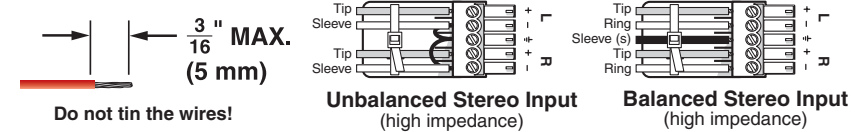
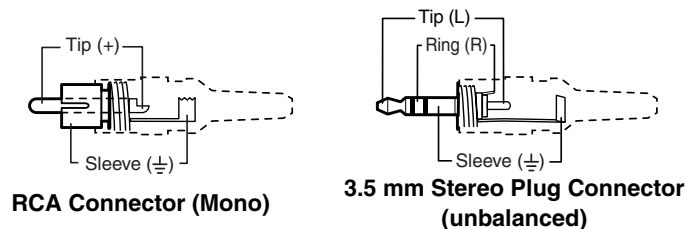
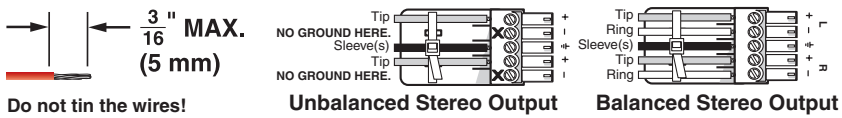

Figure 2-13 — Captive screw input connector wiring
Figure 2-14 — Typical audio connectors
Figure 2-21 — Captive screw connector wiring for audio output
- ① **S-video connector (SV models)** — Connect an S-video input to this 4-pin mini DIN connector.
- ② **Composite video connector (CV and AV models)** — Connect a composite video input to this connector (female RCA on the MTP T AV AAP, female BNC on all other models).
- ③ **Audio input captive screw connector (MTP T SV A, MTP T AV)** — Connect a balanced or unbalanced audio input to this 3.5 mm, 5-pole captive screw connector. Connectors are included with each MTP, but you must supply the audio cable. See figure 2-13 to wire a connector for the appropriate input type. Use the supplied tie-wrap to strap the audio cable to the extended tail of the connector. High impedance is generally over 800 ohms.
NOTE When making connections for the MTP from existing audio cables, see figure 2-14 to identify the tip, ring, and sleeve wires in various connectors. A mono audio connector consists of the tip and sleeve. A stereo audio connector consists of the tip, ring and sleeve. The ring, tip, and sleeve wires are also shown on the captive screw audio connector diagrams, figure 2-13 and figure 2-21.
- ⑧ **S-video connector (SV models)** — Connect an S-video device to this 4-pin mini DIN connector.
- ⑨ **Composite video connector (CV and AV models)** — Connect a composite video device to this BNC connector.
- ⑩ **Captive screw audio connector (MTP R SV A, MTP R AV) —** Connect a balanced or unbalanced audio device, such as an audio amplifier to this 3.5 mm, 5-pole captive screw connector. See figure 2-21 to properly wire the output connector.